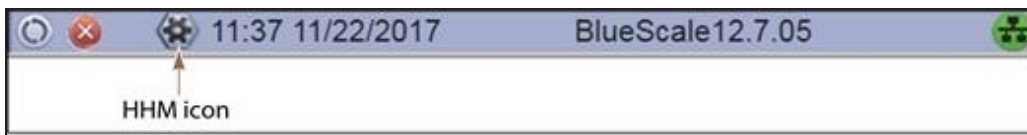

Figure 212 The HHM icon is located on the status bar.
3. Click the HHM icon on the status bar (see Figure 212 on page 395). The Hardware Health Monitoring screen displays.